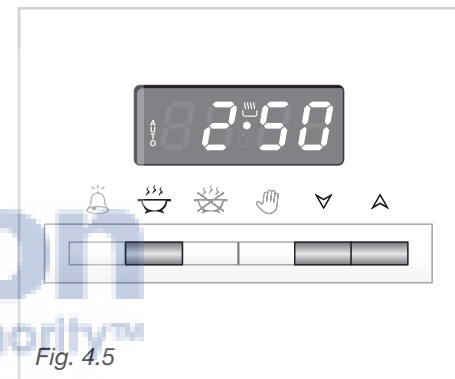

Fig. 4.5
1. Set the length of the cooking time by pushing the  button and the  button to advance, or  to go back if you have passed the desired time (fig. 4.5).